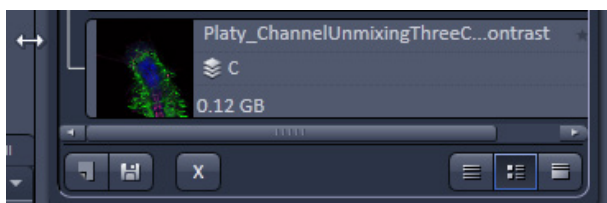

**Fig. 766** Image with warning symbol
- In case the image is not saved or has been processed, a warning symbol is displayed on the right side (Fig. 766).